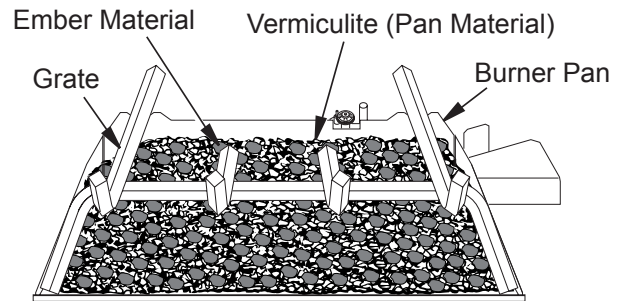

Figure 20 - Ember Material on Surface of Pan Material (Vermiculite) (BRT2332TEN/BRT2532TEN Models Shown)
3. Remove the ember material from the bag and flatten small amounts into quarter size pieces and lay on top of the surface of the pan material (see Figure 20).